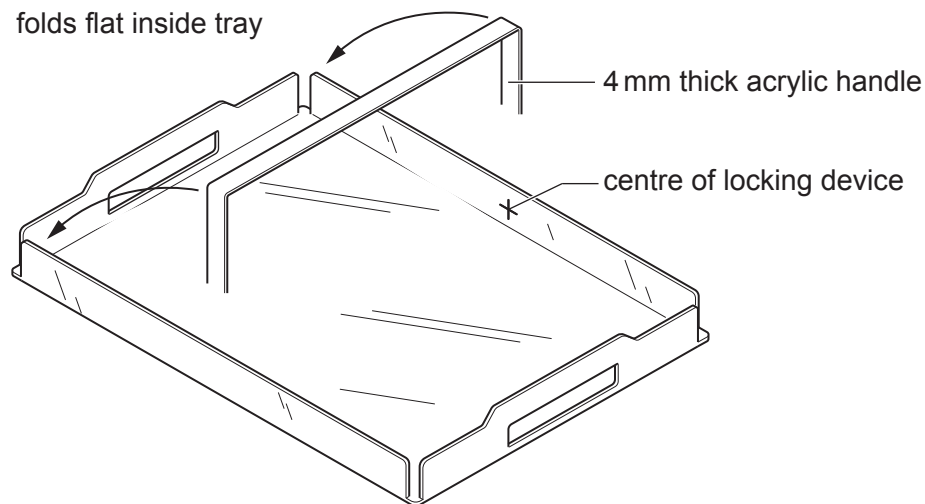

Fig. 12.6
- (i) The tray will have a handle that would enable a person to carry it using one hand. Fig. 12.6 shows the tray with an incomplete handle that will fold flat inside the tray when it is not required.